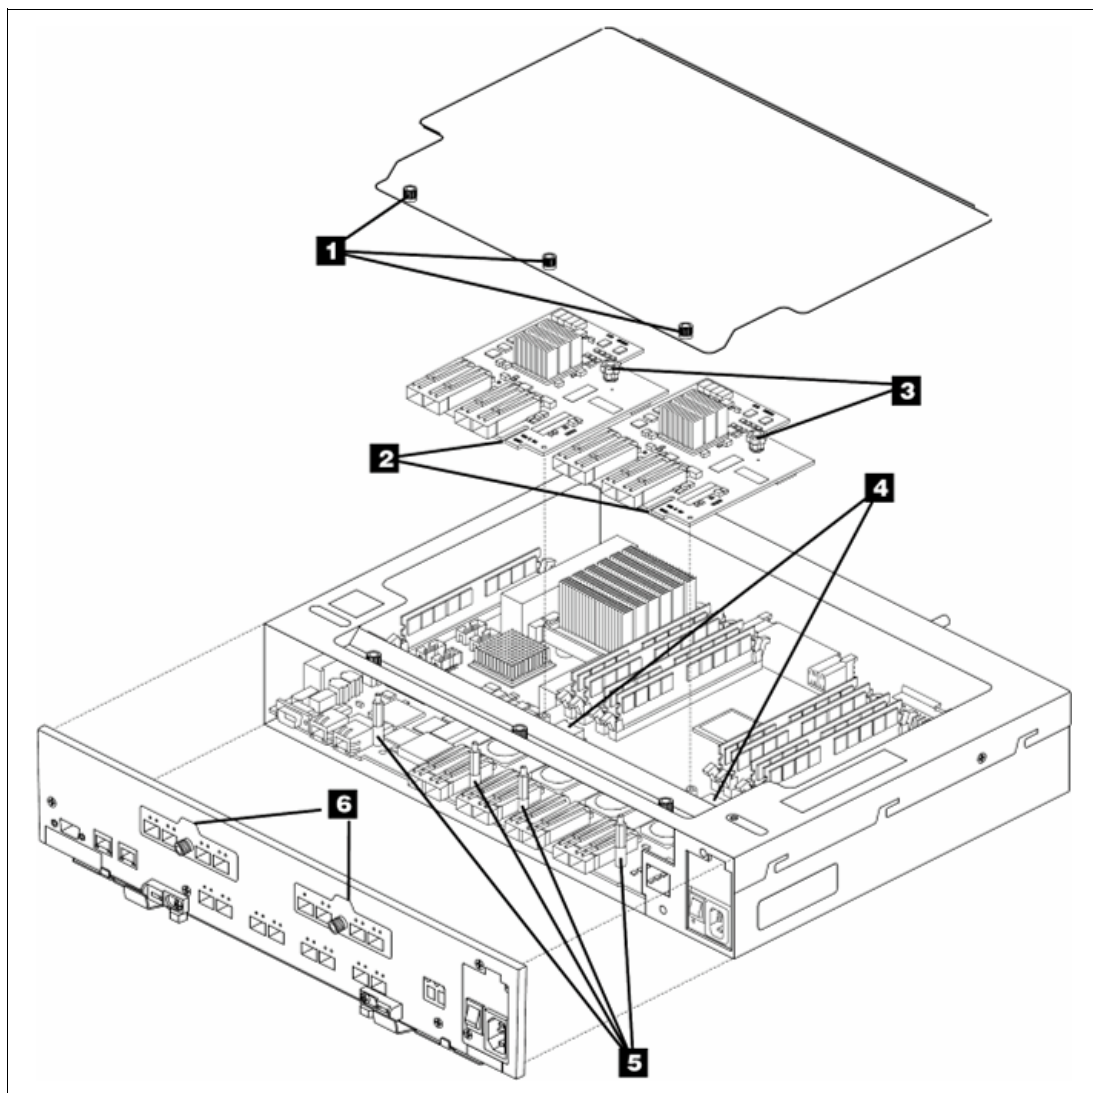

Figure 2-26 Controller exposed
The DS5000 storage subsystem integrates the host-side and drive-side connections into the controller itself. DS5000 models use flexible Host Interface Cards that can be replaced by IBM service personnel only. Each DS5000 controller holds up to two Host Interface Cards (HICs) (see Figure 2-26).
The HICs noted as (2) are shown in Figure 2-26. Thumb screws (3) support easy replacement. Different faceplates (6) are used to describe the LED status of the host port LEDs. The faceplates are described in Figure 2-19, Figure 2-20, Figure 2-21, and Figure 2-22.